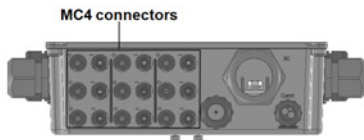

**Figure 23: DC Spring-clamp terminals**
- c. Insert the wire into the top opening (see *Figure 23*).